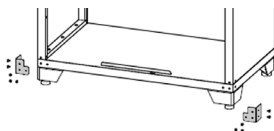

Figure 4.
5. Repeat with the bottom corner connectors 1 and 2 (#10, 11) and M4 x 10 screws (#8) (Fig 4).